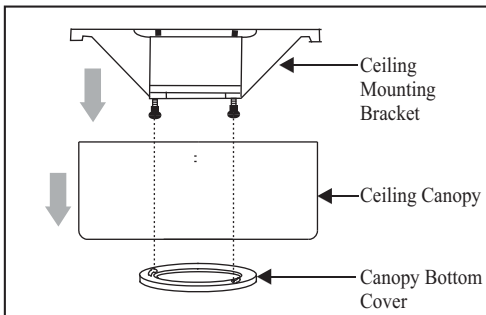

Figure 5
1. Remove the decorative canopy bottom cover from the canopy by turning the cover counter clockwise. (Figure 5)
2. Remove the mounting bracket from the canopy by loosening the two screws on the bottom of the mounting bracket a half turn from the screw head and turning the canopy counter clockwise. (Figure 5)